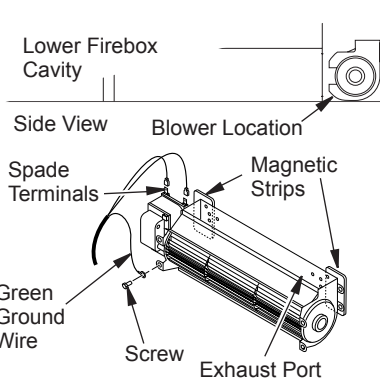

Figure 26 - Blower Model BK
1. Attach power cord to blower motor by firmly pushing two female terminals at end of power cord onto two spade terminals on blower motor (see Figure 26).
2. Attach green ground wire from power cord to blower housing using screw provided (see Figure 26). Tighten screws securely.
3. Place blower against lower rear wall of firebox outer wrapper with exhaust port directed upward. Blower will fit inside back opening and be held in position against back wall by magnets (see Figure 26).